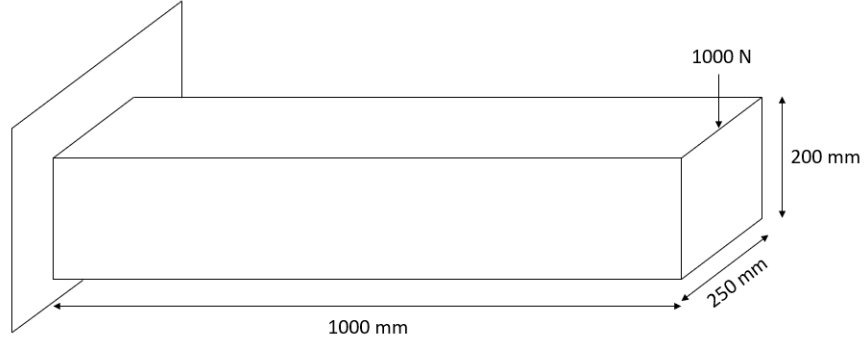

Figure 2
5. Find out the stress distribution of the cantilever beam of 1000 mm in length and has a 250mm x 200mm rectangular cross-section under the point load of 1000 N at the free end as shown in Figure 2. The section is made up of a concrete having a value of 25000 N/mm² for Young's modulus and a value of 0.2 for Poisson's ratio in the respective fields.